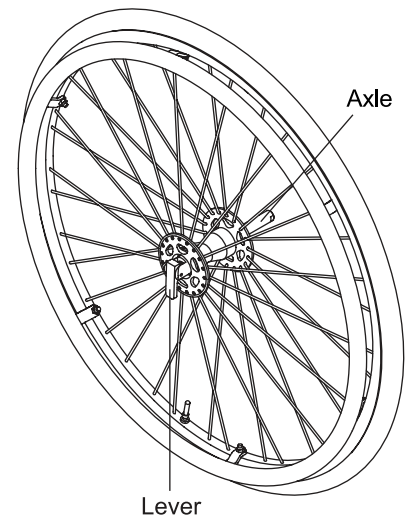

Figure 102
1. Unlock the lever on the quad release axle. See Figure 102.
1. Unlock lever on quad release axle. See Figure 102. **Note:** Make sure the locking balls in the axle are recessed.